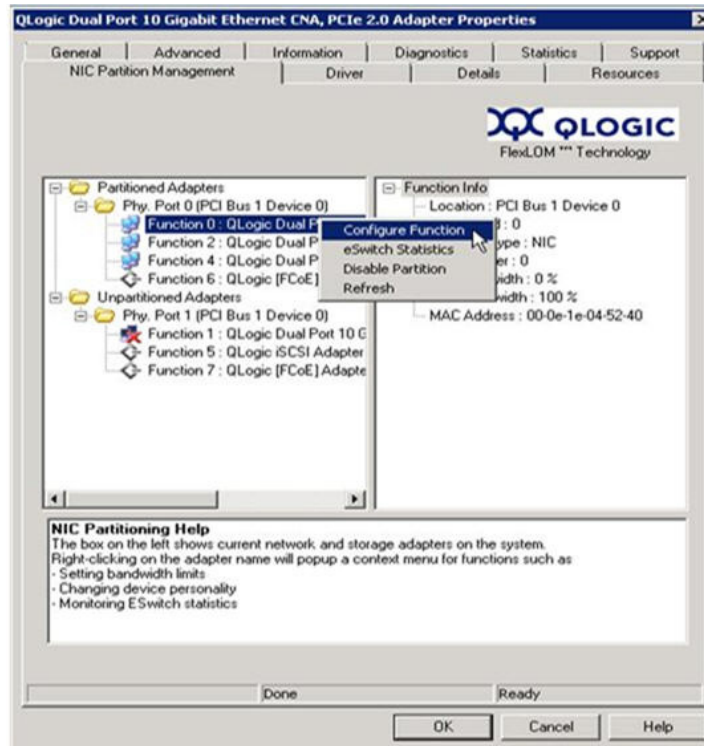

Figure 2-43. Selecting Configure Function for Function 0
2. Right-click the function number for the port you want to configure and select **Configure Function** from the context menu (Figure 2-43).